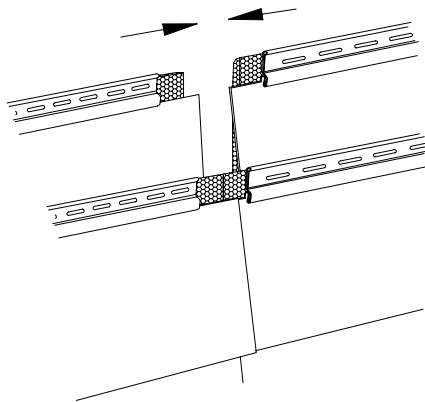

Figure 6.
- The foam is recessed and incorporates a pocket on CraneBoard for the purpose of proper seaming. To seam two panels together, slip the face of one panel between the foam and the face of the adjoining panel. Slide panels together until foam to foam contact is achieved when installing above 40°, 1/4" apart under 40°. Don't allow more than 1/4" space between ends of foam (Fig. 6).